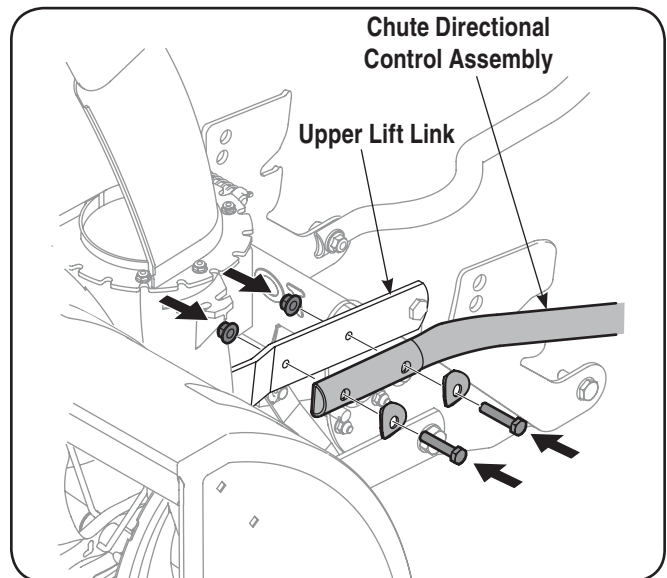

Figure 3-5
1. Attach the chute directional control assembly to the upper lift link on the left side of the auger housing. Assemble with two hex screws and two saddle washers as illustrated in Fig. 3-5. Secure with two flange nuts.